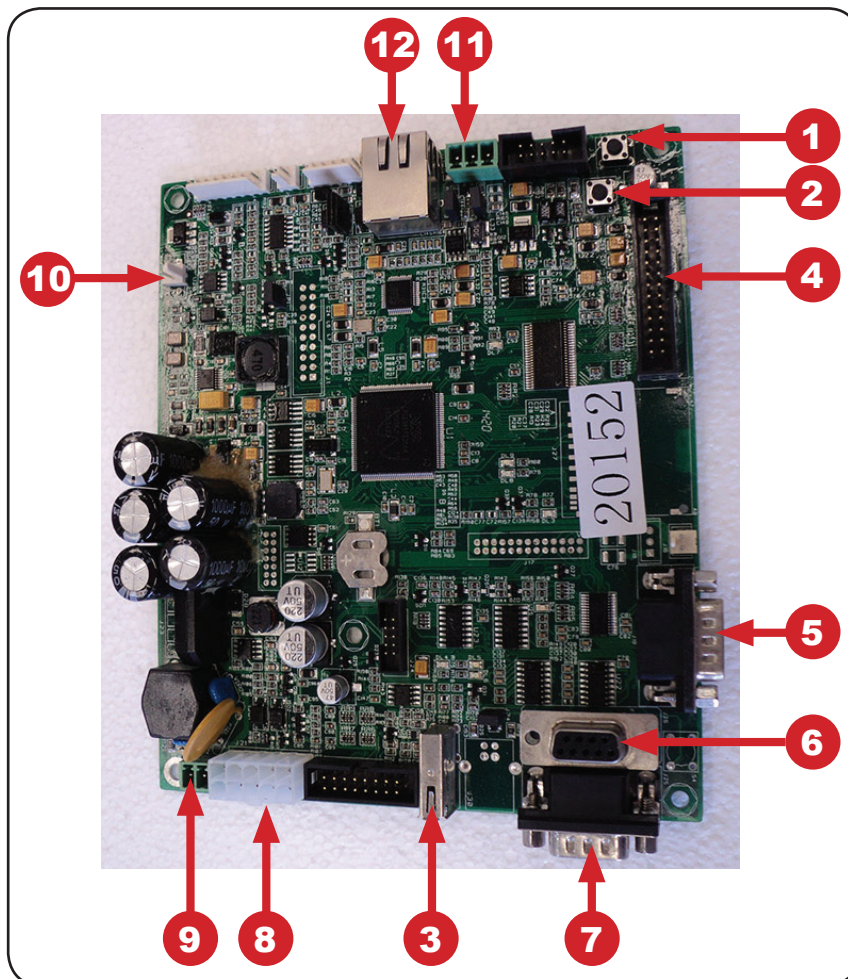

Fig.6.29 - Main board (controller)
- Open the door of the electronics compartment and insert the storage device USB-flash drive (fig.6.29 pos. 3) into the USB port of the controller board;
- To press both black buttons of entering the menu at the same time on the Main Board (the buttons on the board, not on the panel), and while keeping them pressed to insert the service key (fig.6.29 pos.1 and 2). To hold the buttons;